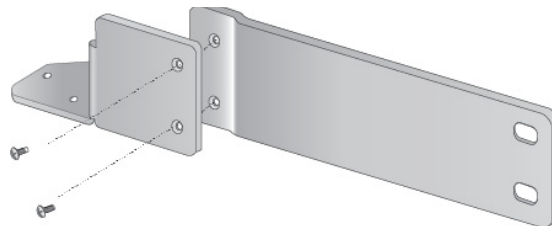

Figure 17. Attaching the Extension to the Bracket
2. Attach the extension to the bracket with the M4x6mm screws using a Phillips-head screw driver as shown in See Figure 17.